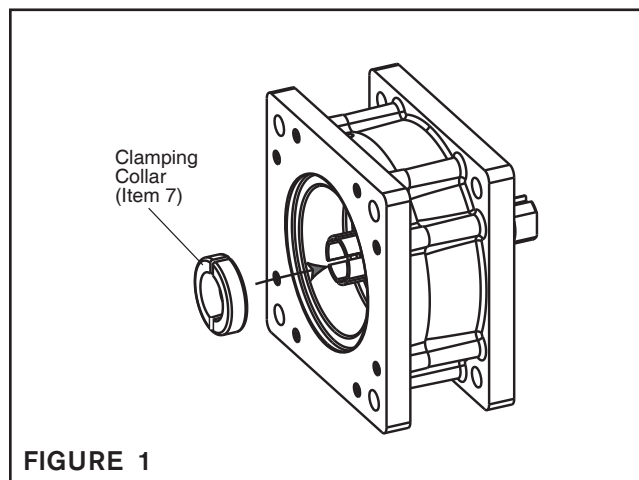

FIGURE 1
**NOTE:** Refer to Figures 1, 2 & 3.